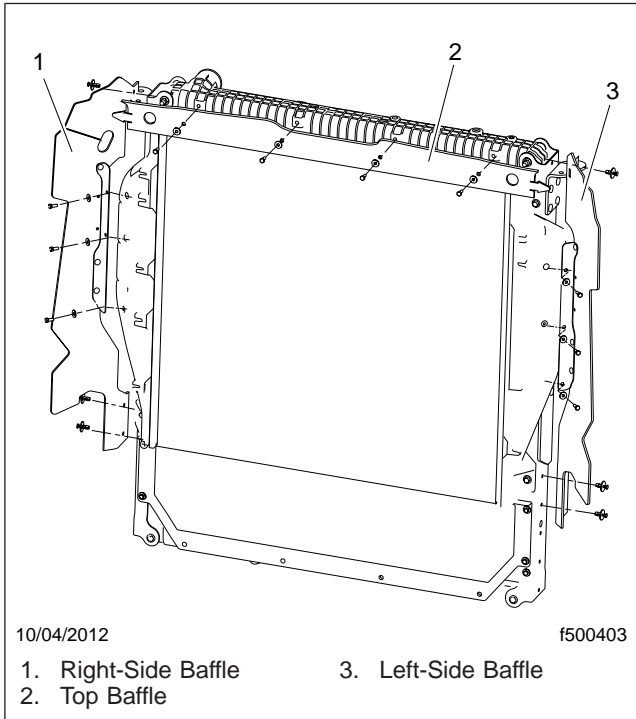

Fig. 8, Radiator Baffle Installation
26. Install the three new radiator baffles on the CAC. See **Fig. 8**.